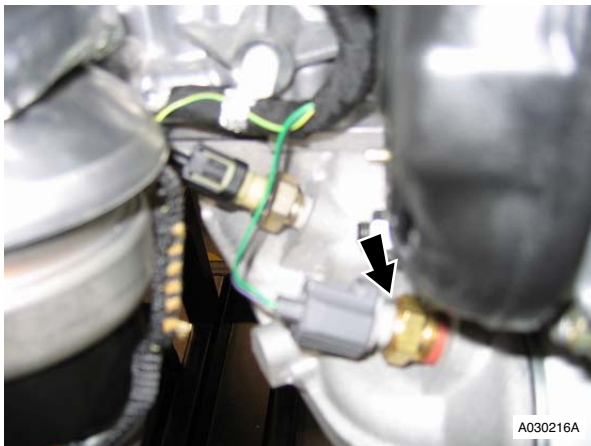

Figure 6
14. Disconnect multiplug from engine electric coolant temperature sensor (see Figure 6).